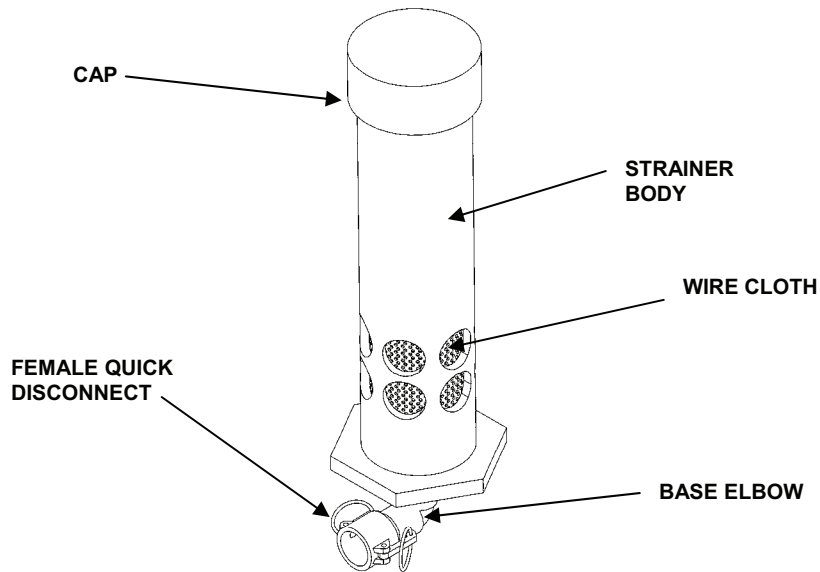

Figure 2. Settling Tank Strainer Assembly.
2. Ensure that the filtrate tank on the UF module is full. Remove strainer assembly from the settling tank. See Figure 2.
5. Connect the hose to the female quick disconnect of the settling tank strainer. See Figure 2.